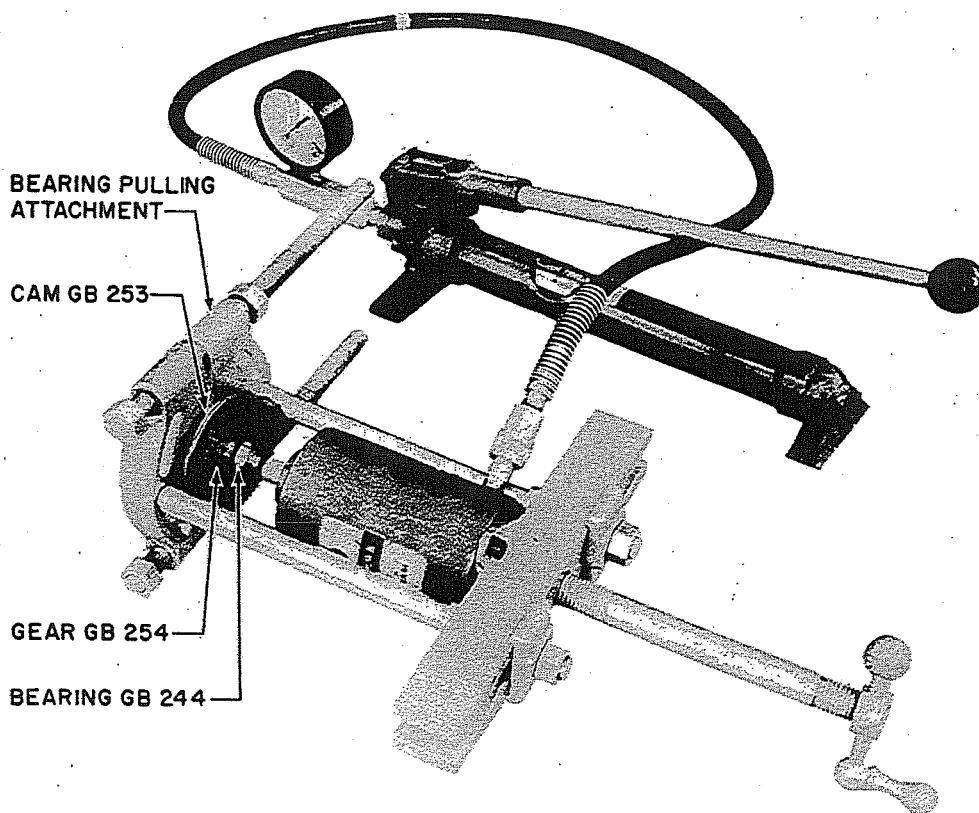

Figure 43. Detector, Removal of Bearing GB244, Gear GB254, and Cam GB253
- Q. Secure the bearing pulling attachment behind the shoulder of Rake Hook Cam GB253 and apply pressure to the shaft to remove the rake hook cam, Detector Gear GB254, and Bearing GB244 (figure 43).